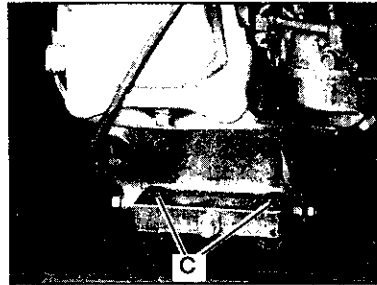

Fig. 9
5. (Refer to Figure 9) Being careful not to remove the stiffener plate under the saddle, loosen the four engine mounting bolts (C).